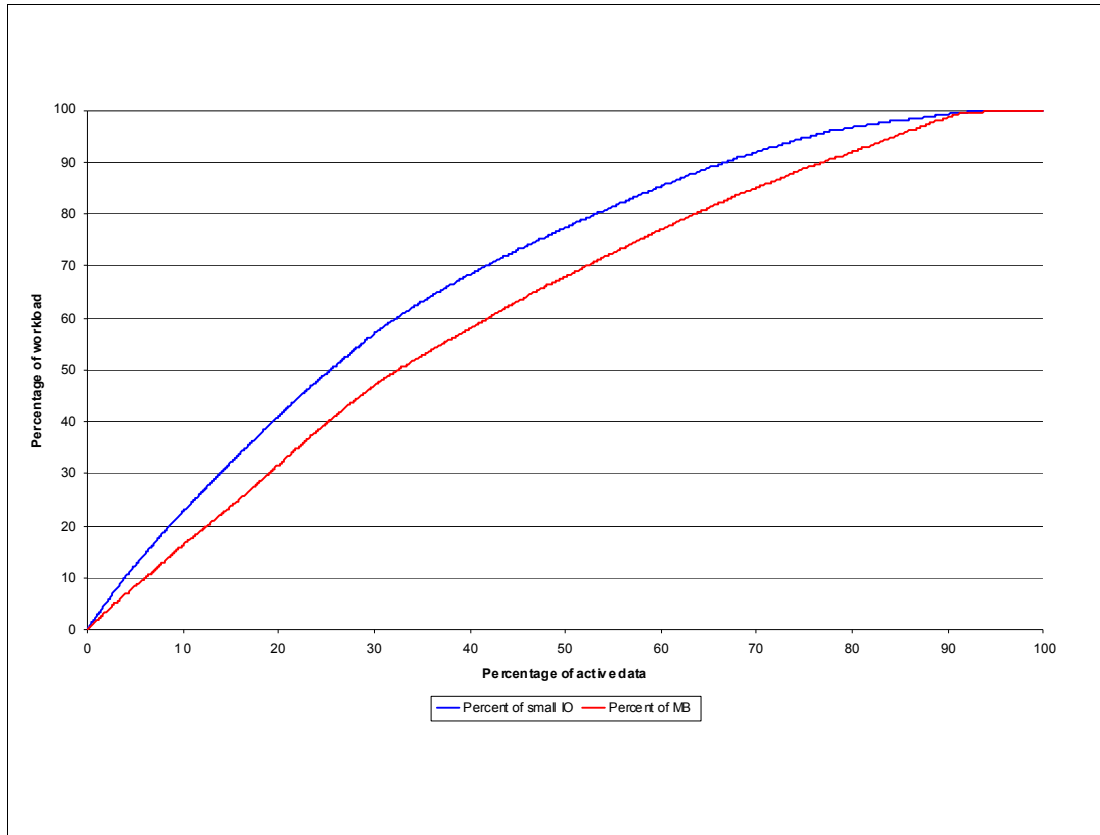

Figure 11-2 Skew level of an IBM i benchmark workload
- ▶ Consider the skew level shown in Figure 11-2, it presents the percentage of workload; (small size I/O) on the percentage of active data. It is a skew level of an IBM i benchmark workload that is a good emulation of a general IBM i customer's workload.
The usable capacity on SSD ranks is about 3.4 TB and the capacity on the HDD ranks is about 19 TB, therefore, about 15% of the overall capacity will reside on SSD. Assuming that the active data covers all the capacity, and based on the skew level graph in Figure 11-2, about 33% of I/O with small transfer sizes will be done to SSD.